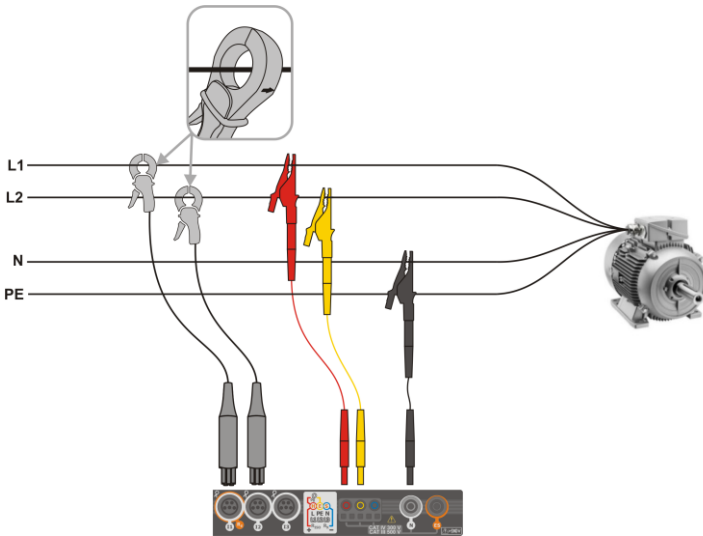

Fig. 5.4 Wiring diagram – 2-phase
- 2-phase (split-phase) with split-winding of the transformer) (Fig. 5.4),